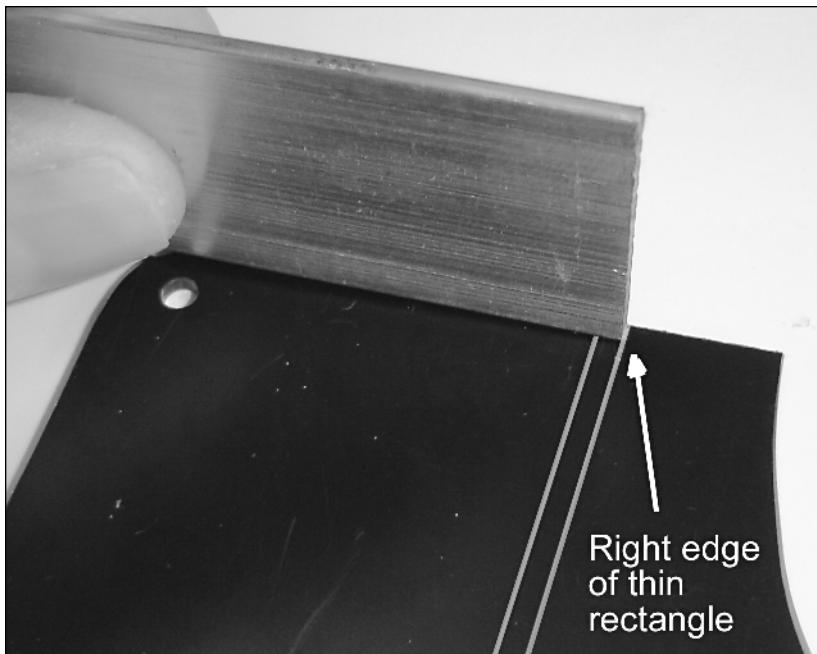

FIGURE 7-12: Initial place to line up the 1"-thick aluminum wall.
1. Grab your 4'-long, 1"-wide, and 1/16"-thick piece of aluminum, and set it against the right edge of the left thin rectangle as shown in Figure 7-12. The end of the aluminum should line up with the top of the left reference groove. This is where the cartridge opening starts.